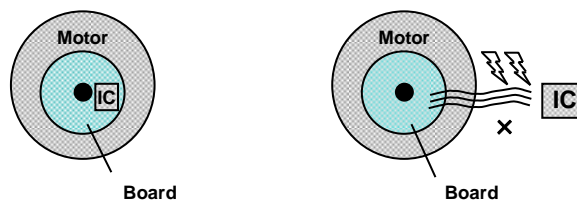

Figure 42. Location Image of IC
1. Generally, the three-phase sensor-less driver detects the BEMF and is rotated the motor. The line noise and resistance affect the detection of the BEMF. As shown in Figure 42, shorten the line from the motor to the IC and place the IC on the motor board.